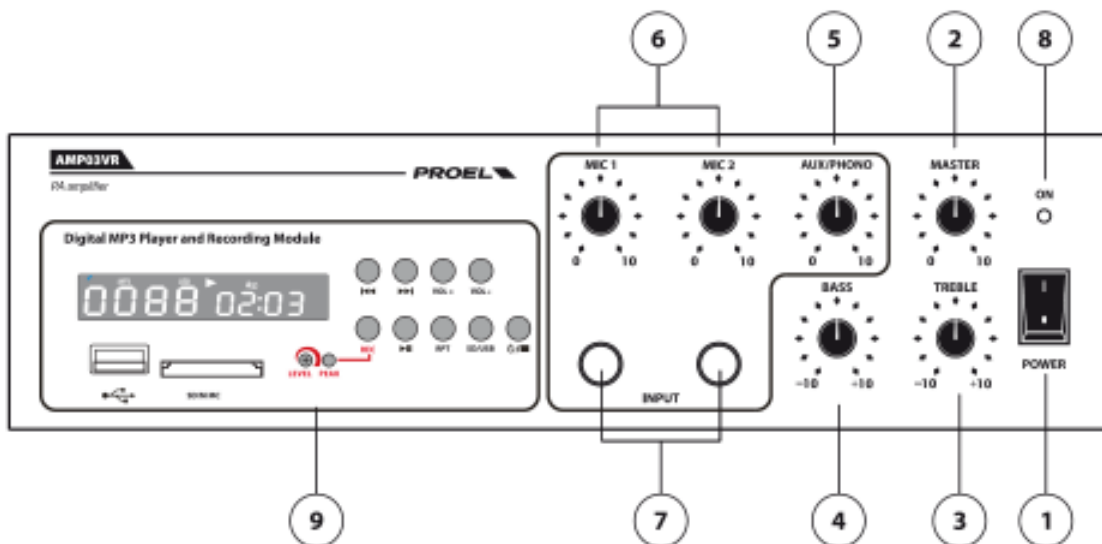
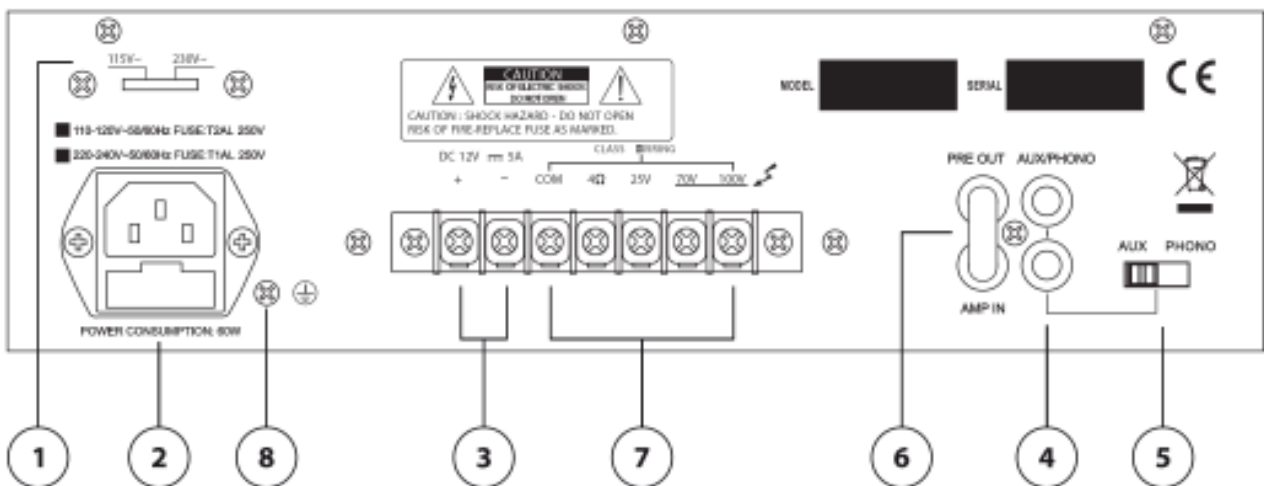
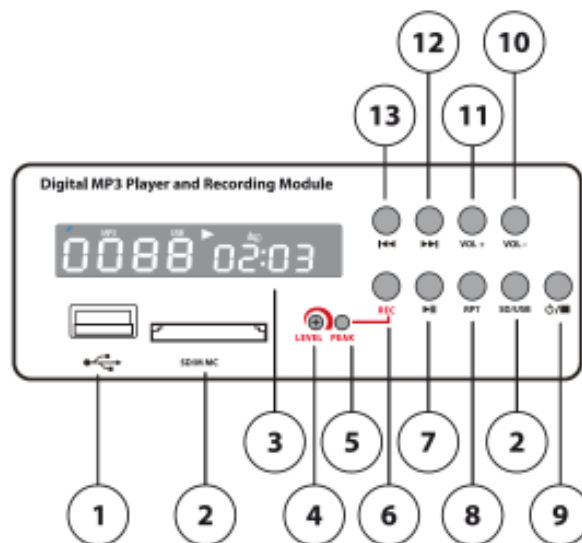

fig.1
fig. 2
fig. 3
Allows grounding of the mechanical parts of the unit in case the mains cable has no ground pole. (fig.2 ref.8).
After having switched on the module (fig. 3, ref. 9) and set the recording level (fig. 3, ref. 4), connect an audio source to one of the three available inputs (fig. 1, ref. 7 – fig. 2, ref. 4) and adjust its level.
Insert the USB key or the SD card in the respective inputs (fig. 3, ref. 1 – fig. 3, ref. 2).
When you wish to stop recording, press the REC button again (fig. 3, ref. 9) and make sure the meter is no longer visualized.
Switch on the module (fig. 3, ref. 9) and insert the USB key or the SD card in one of the respective inputs (fig. 3, ref. 1 – fig. 3, ref. 2).
When you are playing something and you press the PLAY/PAUSE button (fig. 3, ref. 7) the reproduction will stop and will not resume unless you press the button once more.
- MIC1 and MIC2 inputs (fig. 1, ref. 7) are 6.3 mm mono jacks and can be used to connect low impedance (30-600 Ω) dynamic microphones. The MIC1 input features a VOX function that, when driven by a signal, prioritizes it and excludes all other inputs: in this way only the audio signal present on the MIC1 input is reproduced at the output.
- The AUX/PHONO input (fig. 2, ref. 4) is used to connect line level sound signal source (i.e. AM/FM tuner, cassette player, CD player, etc.). The R and L RCA connectors allow the signal input of the right and left channel respectively.
This supplies power to the unit (fig. 2, ref. 2).
Before you connect the unit to the mains outlet, make sure the power supply voltage selector (fig. 2, ref. 1) matches the actual mains voltage.
To access the speaker connectors (fig. 2, ref. 7) unscrew each respective screw terminal to remove the protective cover.